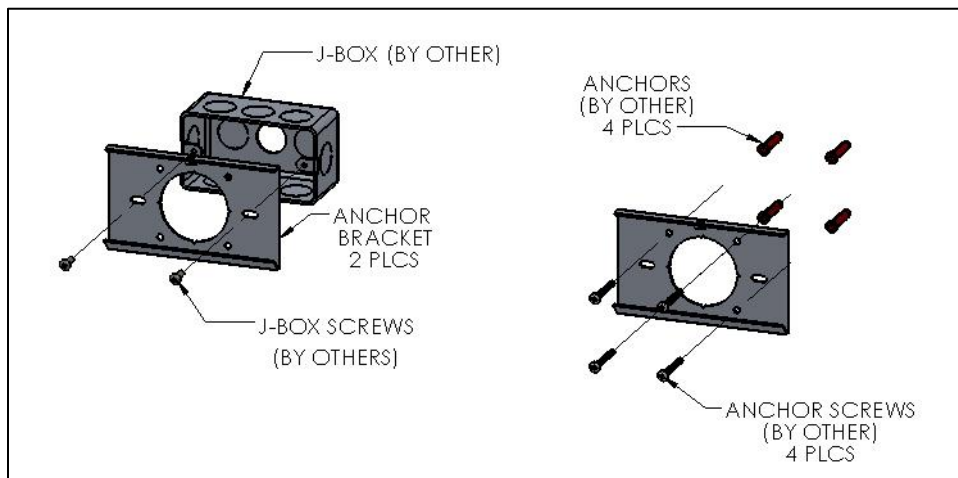

FIG. 7- ANCHOR BRACKET INSTALLATION
2. Attach ONE ANCHOR BRACKET TO 2X4 JBOX (BY OTHER) and another ANCHOR BRACKET to wall as shown in FIG.7.